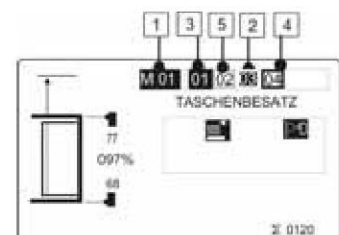

fig. 12
2. **fig. 12:** Activate or deactivate the seam number of a selected seam The seams of a seam program are sewn in turn from left to right, starting with seam **3**, which is marked. If a seam in a seam program is not to be sewn, it has to be deactivated, or if it is to be added to the seam program, it has to be activated: